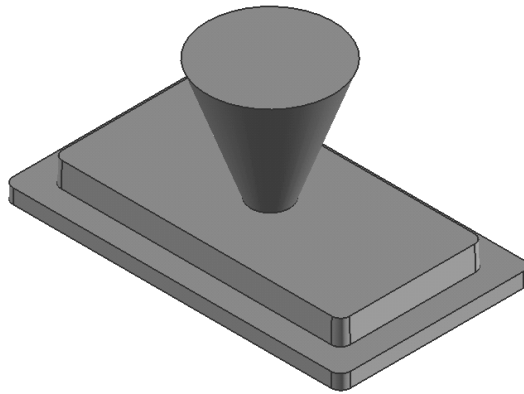

Figure 8-43 The model after creating the taper feature
- Create the draft on the boss feature, refer to Figure 8-43.
- Enter **20** as the value in the **Set1 A** edit box and choose the **OK** button. The draft feature is created, as shown in Figure 8-43.